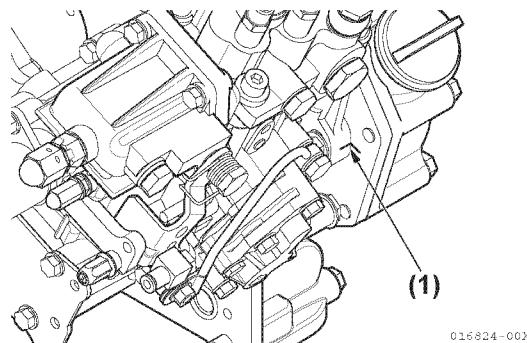

Figure 6-69
- Align the reference marks (**Figure 6-69, (1)**) previously made on both the fuel injection pump mounting flange and gear case or front plate.